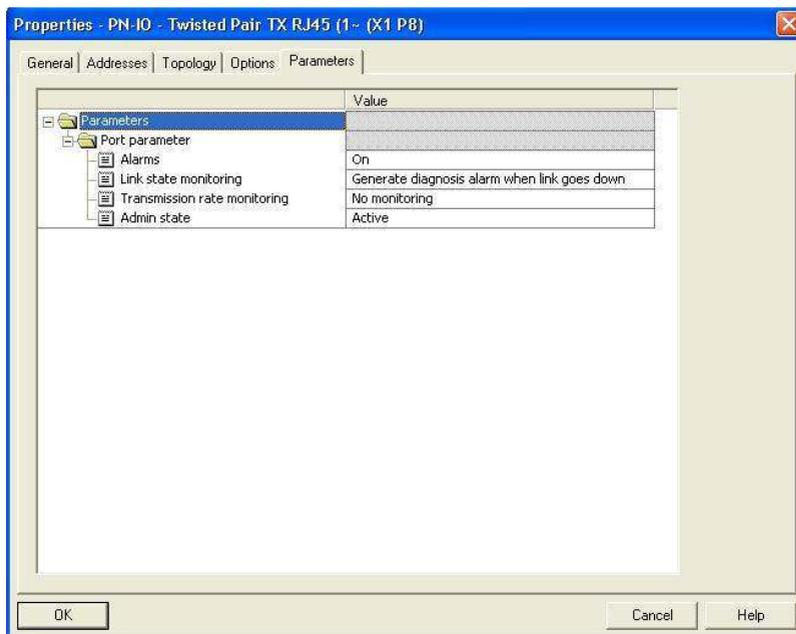

Figure 15: Port properties
- Select the desired alarms and close the window (see figure 15).